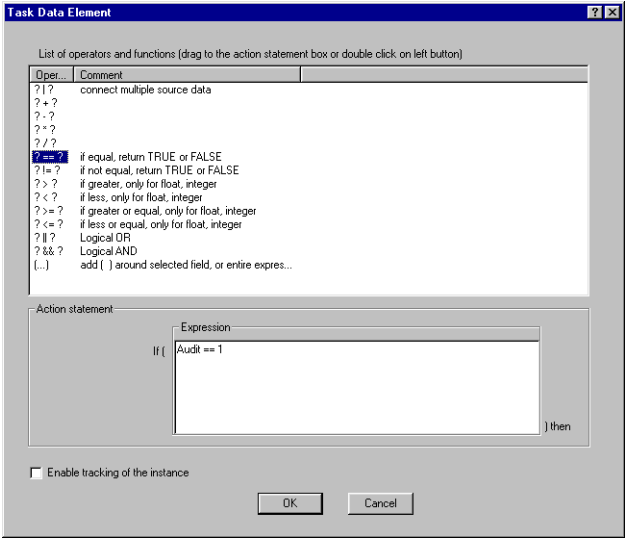

Figure 28-22. Task Data Element with the Audit expression for an **If/then** Statement.
- 4 Type a 1 in place of the second question mark. Compare your work to Figure 28-22, below.